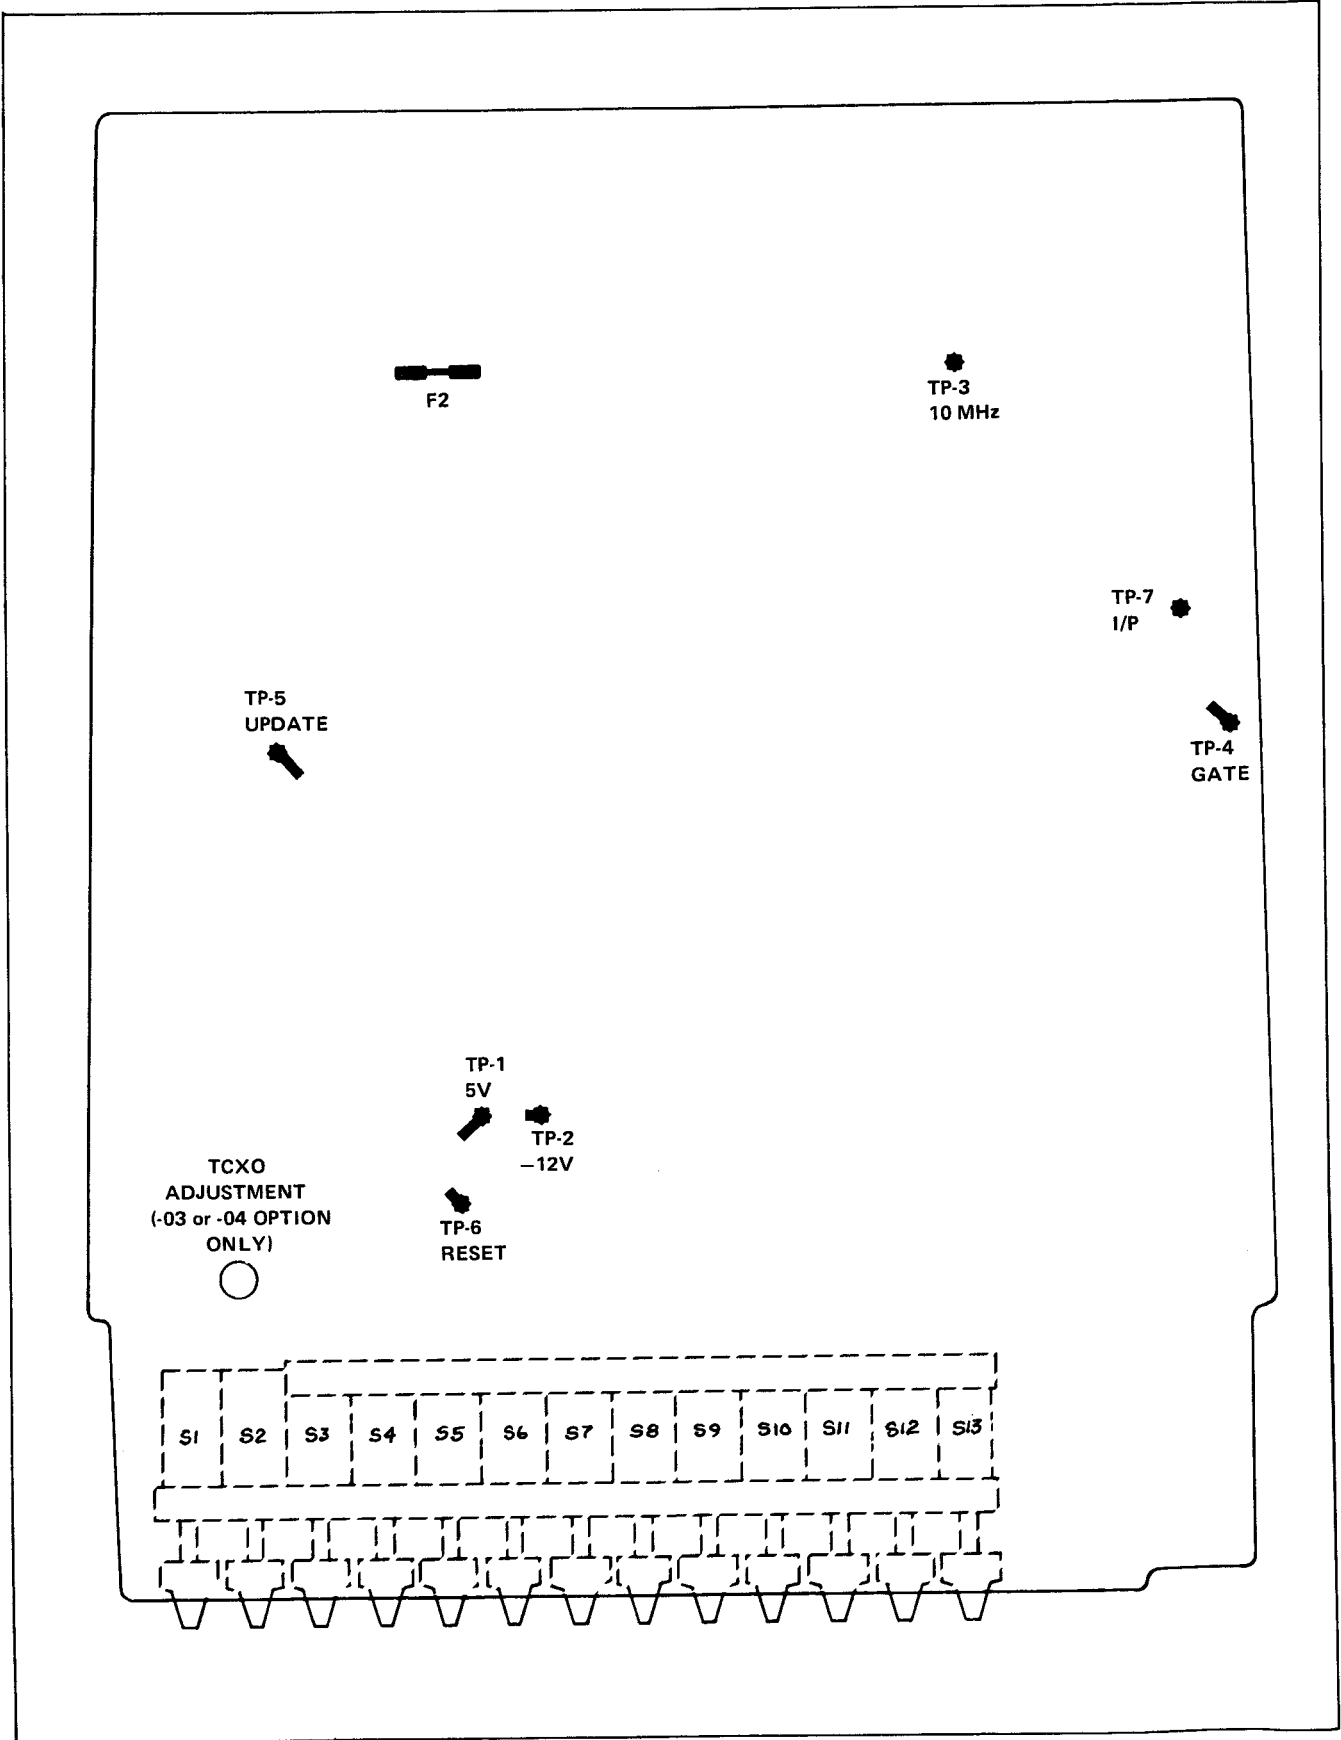

Figure 4-2. Main PCB (BOTTOM VIEW)
5. Using a nonconductive screwdriver adjust the TCXO through the main PCB (see Figure 4-2) to obtain a reading of overflow 000.0000 Hz  $\pm 3$  digits for the -03 and -04 Options.
Test points are clearly marked on the bottom of the main PCB with a number and a star, see Figure 4-2.